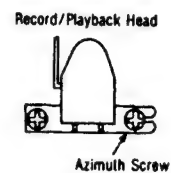

Fig. 2
<p>How to check the main P.C.B.</p> <p>• When checking the soldered surfaces of main P.C.B. and replacing the parts, do as show.</p> <p>1. Remove the 9 screws (①, ③, ⑥~⑪) in above figure. 2. Remove the 6 screws (⑫~⑰). 3. Remove the front panel ass'y in the direction of arrow A.</p>  	<p>4. Remove the bottom board ass'y in the direction of arrow B. 5. Reinstall the front panel ass'y to the main P.C.B.</p>